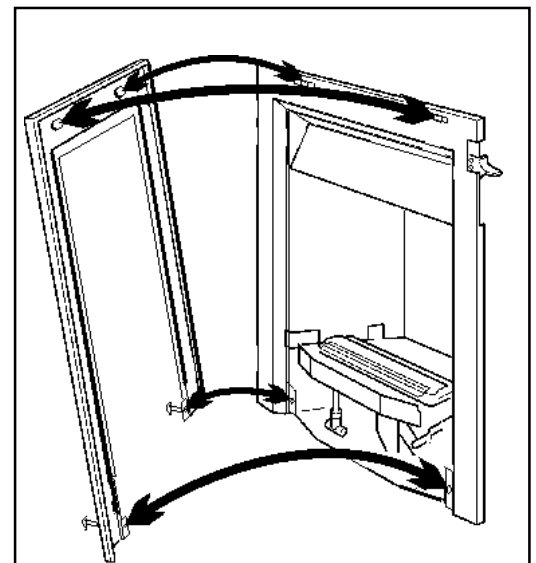

Fig. 6a Limousin fascia fixings
4.2.1 Limousin only: Detach the front fascia by removing two screws near the bottom inner edges of the fascia legs. Pull the fascia clear (The top is held to the convection box by two magnetic discs). See figure 6a.
the two magnetic discs at the top align with the magnet plates near the top of the convection box. See figure 6a.